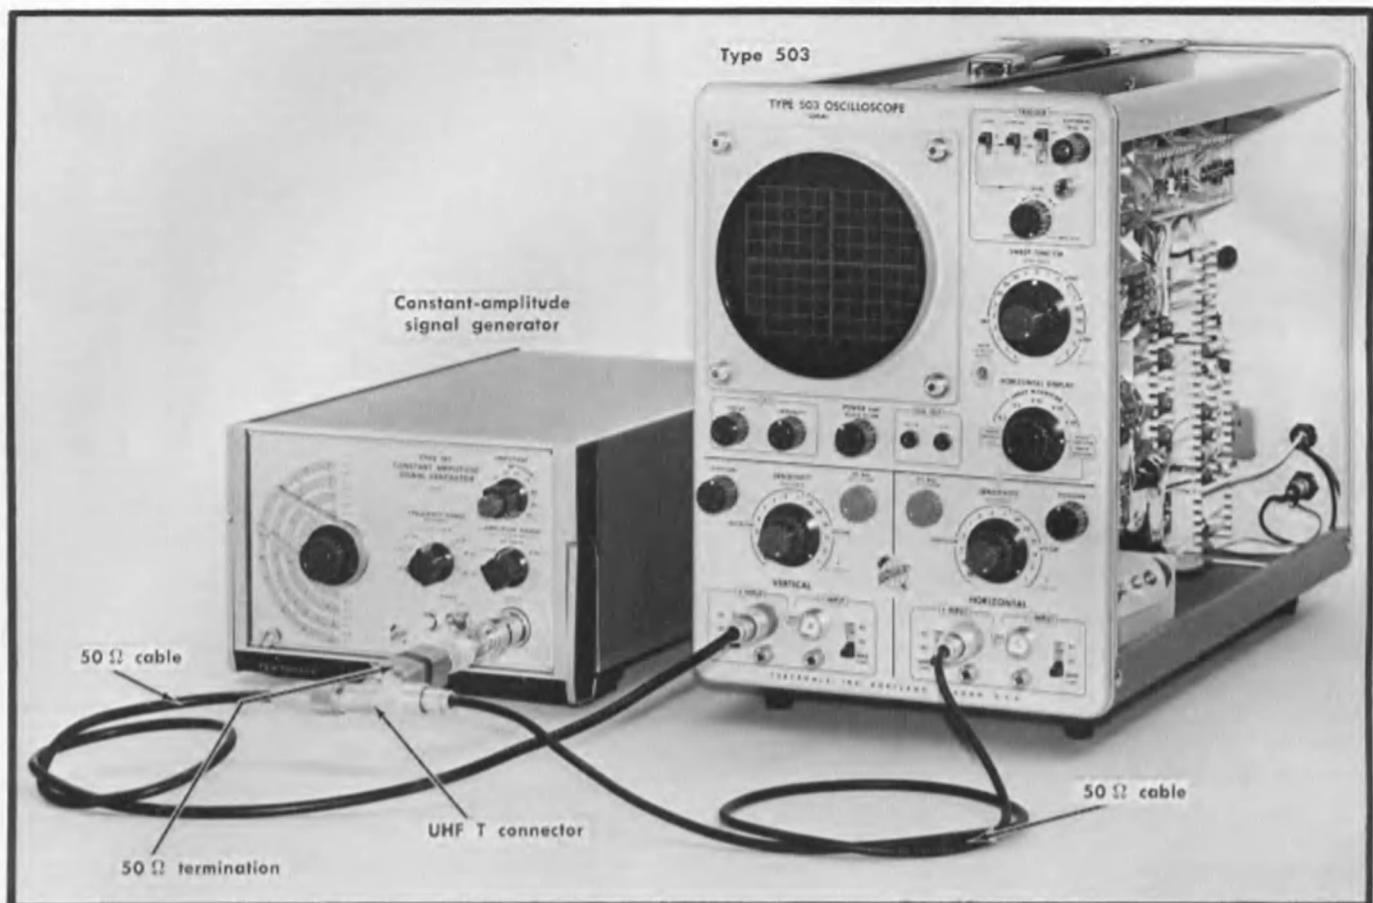

Fig. 6-24. Test setup for adjusting amplifier phasing.
a. Test setup is shown in Fig. 6-24.
b. Connect a 50 Ω termination, a UHF T connector, and two 50-ohm cables to the output connector of the constant-amplitude signal generator. If desired, two quick-connect adapters (item 15 of Recommended Equipment) may be installed at the Type 503 input ends of the cables, to permit easy cable-switching.